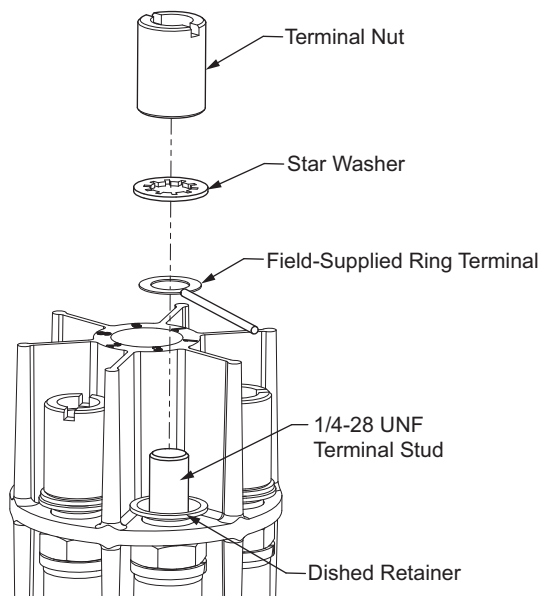

Fig. 9 — Terminal Plate Components
2. With screwdriver, remove terminal nut and star washer only on terminals needed to make connections applicable to installed overload system. Leave dished retainer in place. (See Fig. 9.)
3. Apply all applicable power and control circuit leads to the terminal studs per associated overload wiring diagram. Reassemble star washers and extended slotted terminal nuts. (See Fig. 9.)